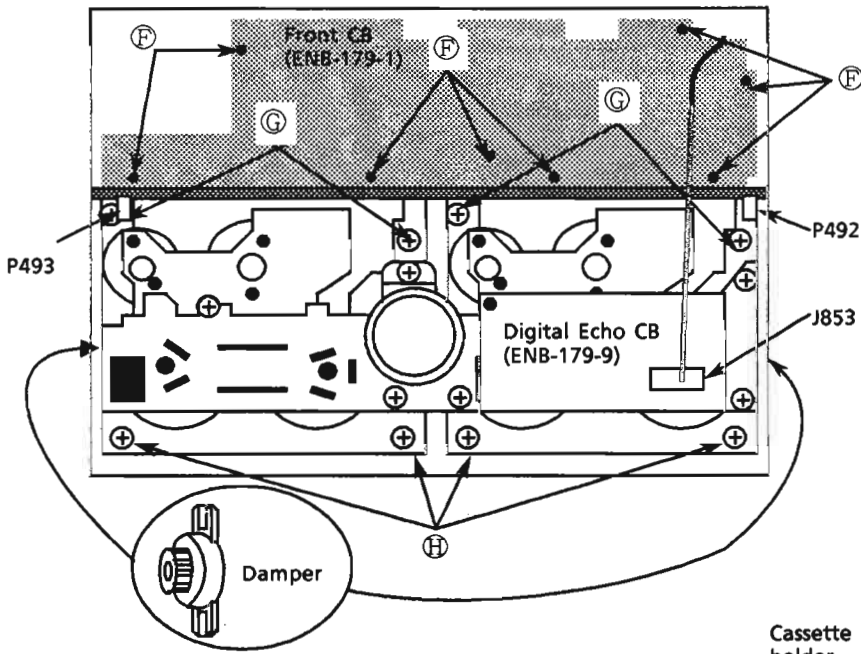

Figure5 Back of the front panel assembly
3. Disconnect the connectors P492, P493 on the deck control circuit board and remove the flat wire from J853 on the digital echo circuit board (Figure 5).
4. Remove the 8 screws (G) and (H) fixing the assembly.